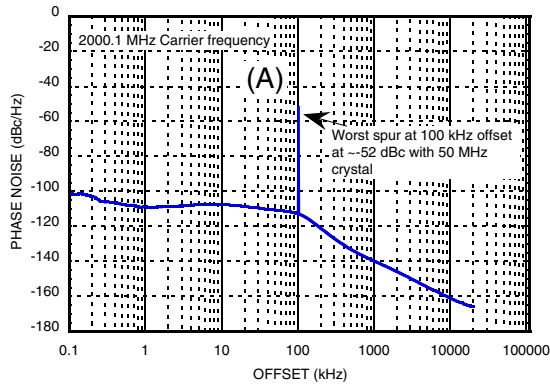
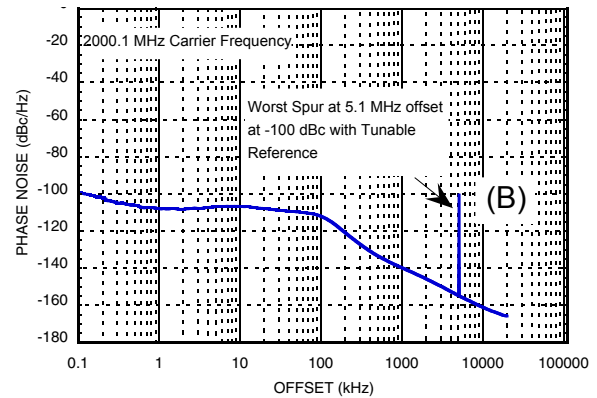
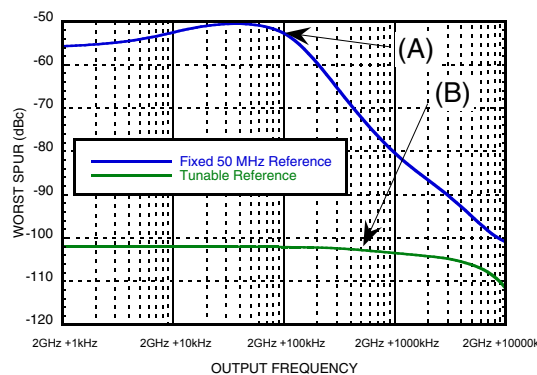

Figure 35. HMC833LP6GE Worst spur at any offset, fixed 50 MHz reference, output frequency = 2000.1 MHz
Figure 36. HMC833LP6GE worst spur at any offset, tunable reference (HMC830LP6GE), output frequency = 2000.1 MHz
Figure 37. Largest observed spurious, at any offset, using a fixed 50 MHz reference source and a tunable reference source.
For example, Figure 35 shows the spectrum of a carrier operating at 2000.1 MHz with a 50 MHz fixed reference. This is 100 kHz away from an Integer Boundary (50 MHz x 40). Worst case spurious can be observed at 100 kHz offset and about -52 dBc in magnitude.
Figure 36 shows the same HMC833LP6GE PLL VCO operating at the same 2000.1 MHz carrier frequency, using a tunable reference at 47.5 MHz generated by HMC830LP6GE. Worst case spurious in this case can be observed at 5 MHz offset and about -100 dBc in magnitude.
The results of Figure 35 and Figure 36 show that the tunable reference source achieves 50 dB better spurious performance, while maintaining essentially the same phase noise performance.
Many spurious measurements, such as the ones in Figure 35 and Figure 36 can be summarized into a single plot of worst case spurious at any offset vs. carrier frequency as shown in Figure 37. A log frequency display relative to the 2000 MHz fixed reference Integer Boundary was used to emphasize the importance of the loop bandwidth on spurious performance of the fixed reference case. This technique clearly shows the logarithmic roll-off of the worst case spurious when operating near the Integer Boundary. In this case the loop filter bandwidth of the HMC833LP6GE was 100 kHz.
For example worst case spurious operating at 2000.1 MHz (point (A)) in Figure 35 with a fixed 50 MHz reference) is represented by a single point in Figure 37 (point (A)) on the blue curve. Similarly, worst case spurious from Figure 36 with variable reference, operating at 2000.1 MHz is represented by a single point in Figure 37 (point (B)) on the green curve.
The plot in Figure 37 is generated by tuning the carrier frequency away from Integer Boundary and recording the worst case spurious, at any offset, at each operating frequency. Figure 37 shows that the worst case spurious for the 50 MHz fixed reference case, is nearly constant between -51 dBc and -55 dBc when operating with a carrier frequency less than 100 kHz from the Integer Boundary (blue curve). It also shows that the worst case spurious rolls off at about 25 dB/decade relative to 1 loop bandwidth. For example, at an operating frequency of 2001 MHz (equivalent to 10 loop bandwidths offset) worst case spurious is -80 dBc. Similarly, at an operating frequency of 2010 MHz (equivalent to 100 loop bandwidths) worst case spurious is -100 dBc.
In contrast, the green curve of Figure 37 shows that the worst case spurious over the same operating frequency range, when using an HMC830LP6GE tunable reference, is below -100 dBc at all operating frequencies!